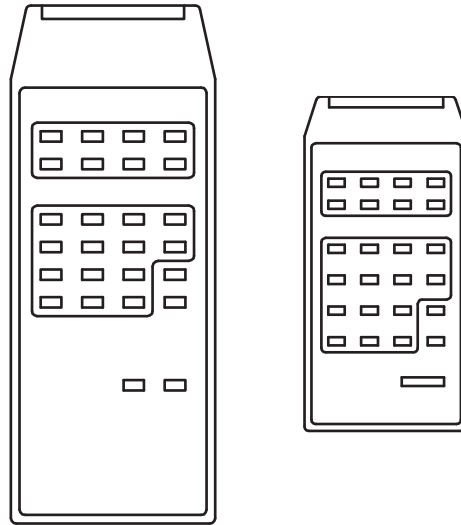

Fig. 18-13
3. Marketing wants to use the original design of your TV remote control device, but you must change it to meet competitive standards. Create the first drawing of the device (shown on the left in Fig. 18-13). Then copy the drawing. On the copy, make the following changes using the commands you learned in this chapter.
The final device should look similar to the drawing on the right in Fig. 18-13. Save the drawing as **remote.dwg**.